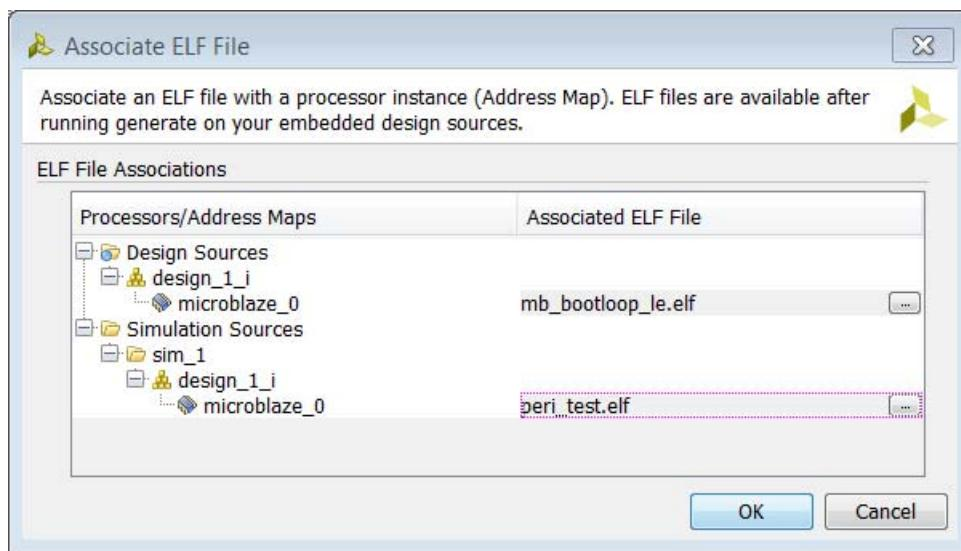

Figure 4-28: Ensuring the ELF File is Populated
10. Make sure that the ELF file is displayed in the **Associated ELF File** column, as shown in Figure 4-28, page 87, and click **OK**.